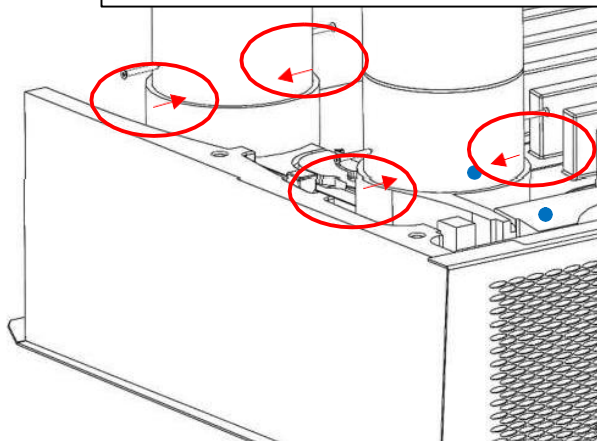
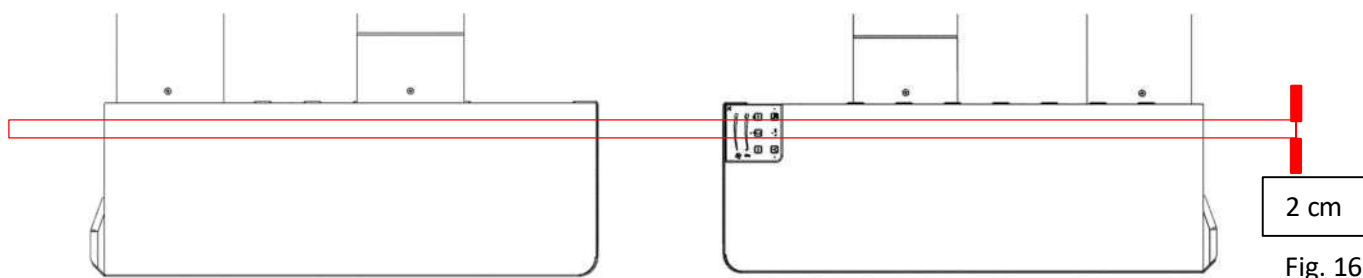

Fig. 15
Fig. 16
- Fasten the installed pipes against each other using the Ø4x22mm self-tapping screws (supplied as mandatory accessories - box 2), as shown in Figure 15 - 4, at 20mm from the edge of the unit, see Figure 16.
- Fasten the installed pipework with self-tapping screws Ø4x22mm against each other, as shown in Figure 15 - 4, at 20mm from the edge of the appliance, see Figure 16.